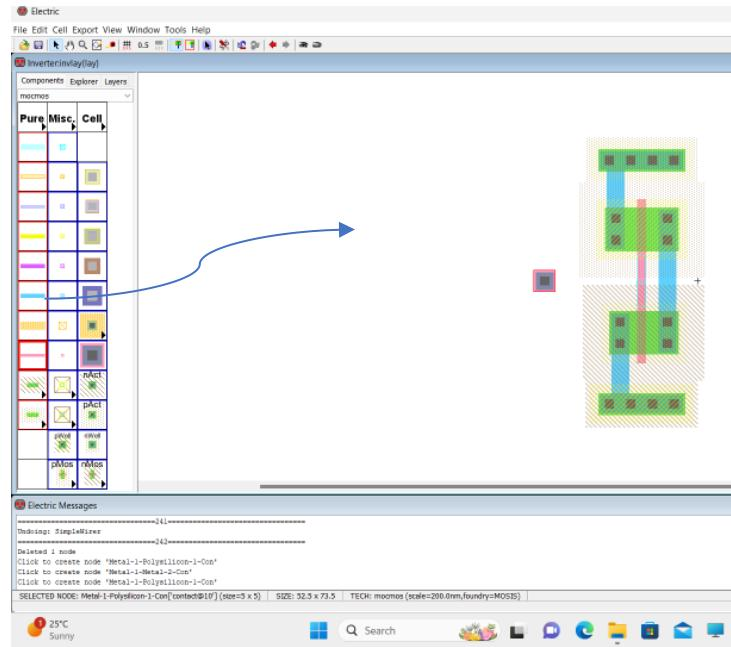

Figure 1.43: Adding a contact for input.
9. put the contact for input as shown below. (see Figure 1.43).